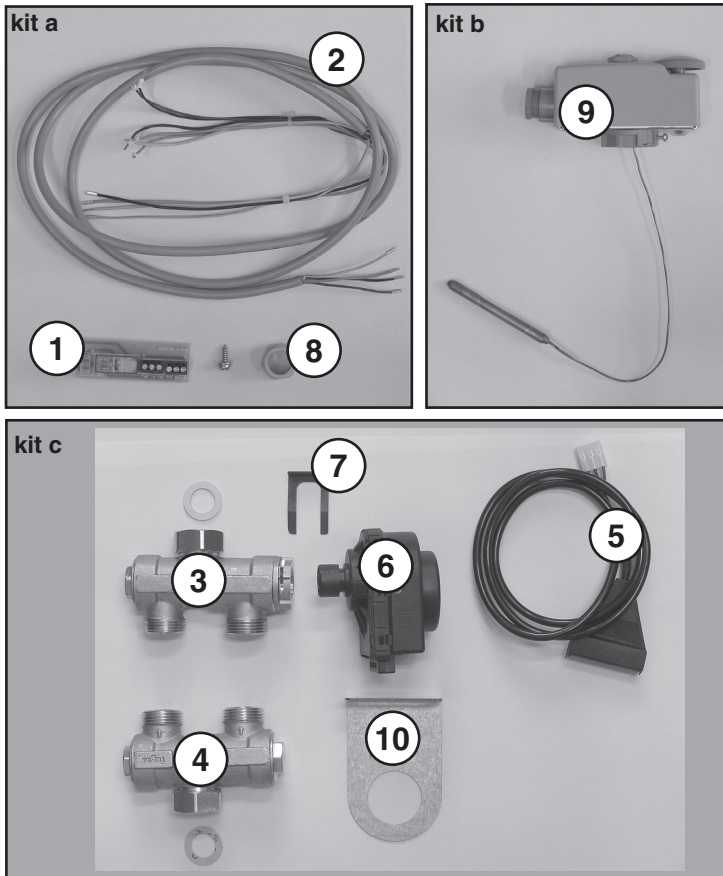
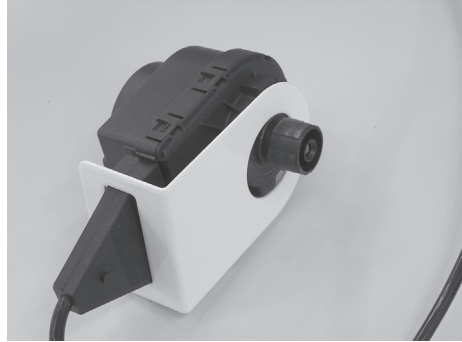

fig. 1
fig. 3
2. Install a shutting valve to the boiler heating water outlet. Then install the mechanical part of the actuator-controlled 3-way valve (Fig. 1, position 3), so that the control valve is facing right. Please note: shutting valve is not part of the delivery.
5. To the boiler heating water inlet install a filter, a shutting valve and then the distributor which is part of the interconnection kit (Fig. 1, position 4). Please note: Filter and shutting valve are not part of the interconnection kit.
12. Take out the cable with connectors from the kit (Fig. 1, position 5), and plug the larger of the connectors to the 3-way valve actuator (Fig. 1. position 6).
13. Take out the connector safety shield from the kit (Fig. 1, position 10), and thread the 3-way valve actuator cable through the rectangular cut-out (Fig. 3)
14. Insert the safety shield circular cut-out on the control part of the 3-way valve actuator (see Fig. 3).